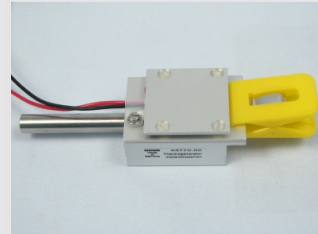

Figure 1
1. Attach the Peltier element to the aluminium block using the yellow clamp (Fig. 1). Note that the smaller side of the Peltier element is on top.